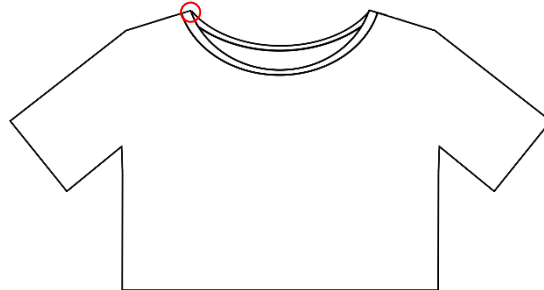

Figure 7 – T-shirt template with grasping point for **[cr]**
- T-shirt random on a planar surface (**[cr]**). The T-shirt must be dropped on a planar surface: grasp it at the point highlighted with the red circle in Figure 7 and release it such that the minimum distance between the T-shirt and the surface is greater than 10 cm.